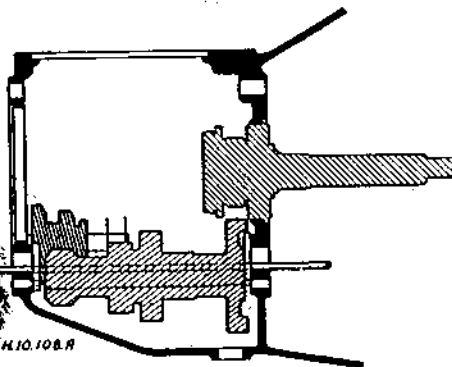

Fig. 8.
4. The assembly of the laygear and the thrust washers will then be clearly seen. The purpose of the thin rod is to enable the gear to be readily re-assembled if it is not desired to take it out of the box. (See Fig. 8).